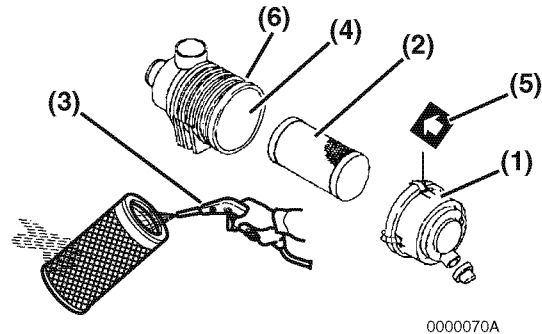
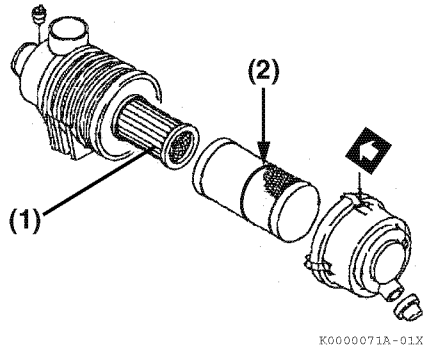

Figure 5-12
Figure 5-13
Note that a typical air cleaner is shown in **Figure 5-12** and **Figure 5-13** for illustrative purposes only.
1. Unlatch and remove the air cleaner cover (**Figure 5-12, (1)**).
2. Remove the element (**Figure 5-12, (2)**) (outer element if equipped with two elements).
3. Blow air (**Figure 5-12, (3)**) through the element from the inside out using 42 - 71 psi (0.29 - 0.49 MPa; 3.0 - 5.0 kgf/cm²) compressed air to remove the particulates. Use the lowest possible air pressure to remove the dust without damaging the element.
4. If the air cleaner is equipped with a double element, only remove and replace the inner element (**Figure 5-13, (1)**) if the engine lacks power or the dust indicator actuates (if equipped).
8. Install the element into the air cleaner case (**Figure 5-12, (4)**).
Note: If there is a red line (**Figure 5-13, (2)**) in the outer element, reinsert the element until the overlap position of red line and end face of the air cleaner case.
9. Reinstall the air cleaner cover making sure you match the arrow (**Figure 5-12, (5)**) on the cover with the arrow on the case (**Figure 5-12, (6)**).
Replace the air cleaner element (**Figure 5-12, (2)**) every 500 hours even if it is not damaged or dirty.
When replacing the element, clean the inside of the air cleaner case (**Figure 5-12, (4)**).
If the air cleaner is equipped with a double element, *only remove and replace the inner element (Figure 5-13, (1)) if the engine lacks power or the dust indicator actuates (if equipped)*. This is in addition to replacing the outer element.